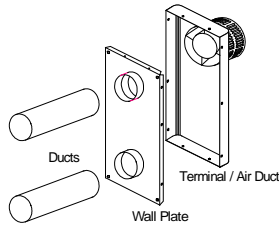

Figure 21
7. For assembly and fitting of the terminal guard refer to figure 16 and figure 21.